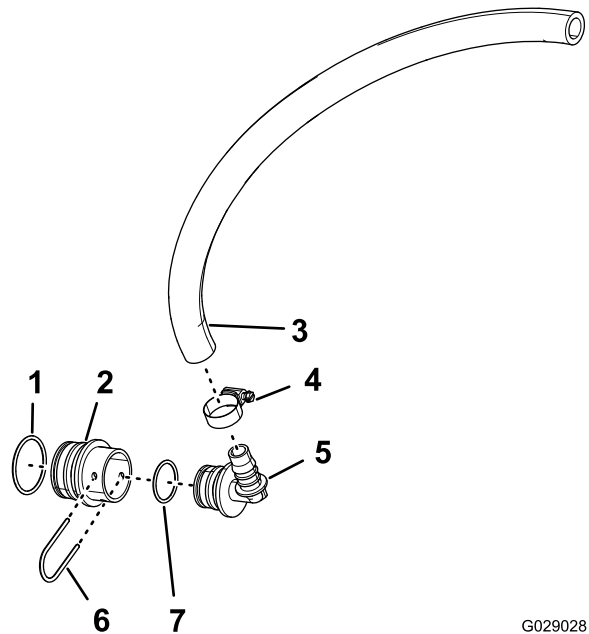

Figure 37
5. Install the large O-ring into the O-ring groove of the reducer hub and the small O-ring into the O-ring groove of the 90° hub fitting (Figure 37).
6. Install the 90° hub fitting into the reducer hub and secure the fittings with a retainer (Figure 37).
7. Assemble transfer hose 1.9 x 61 cm (3/4 x 24 inch) onto the barbed end of a 90° hub fitting into and secure the hose and fitting with a hose clamp (Figure 37).